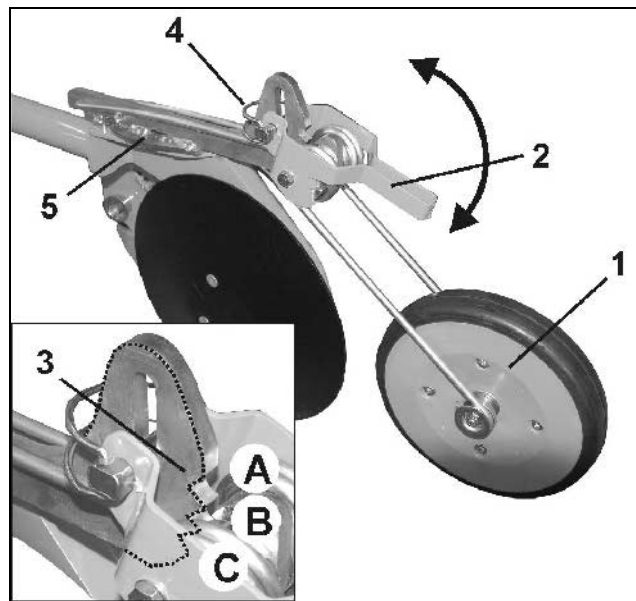

Fig. 16
3 Adjustment of the pressure of the seed press roller (Fig. 16/1) in three positions.
1. To release the locking lever (Fig. 16/2) swivel it upwards.
By toothing the seed press roller (Fig. 16/1) can be set in 3 positions.
1. Swivel the locking lever (Fig. 16/2) upwards to release it.
2. Remove the lynch pin (Fig. 16/4).